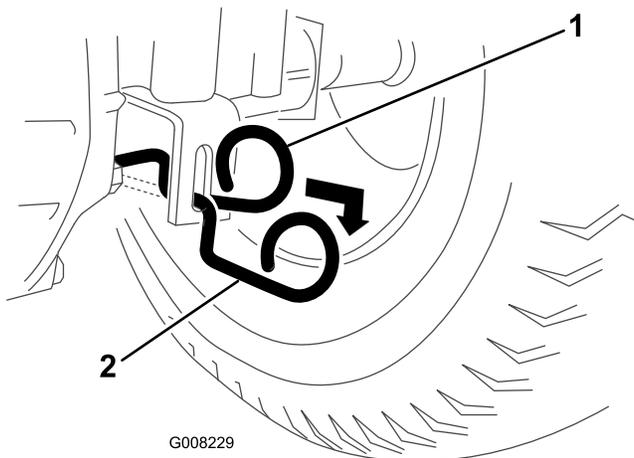

Figure 10
2. Place the drive control in the Push position (Figure 10).
4. Place the drive control in the Operate position (Figure 10) and drive the tractor forward about 5 feet (1.5 m), then reverse for about 5 feet (1.5 m). Repeat this step 3 times.